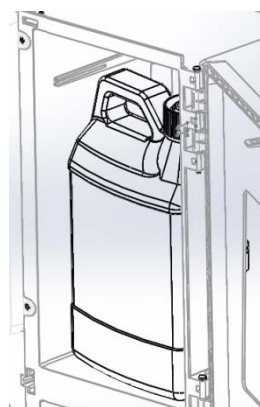

Figure 4
- Position chemical container into each compartment in desired position and connect SafeLink cap or install tubing w foot valve and ceramic weight into open container (*Figure 4*)